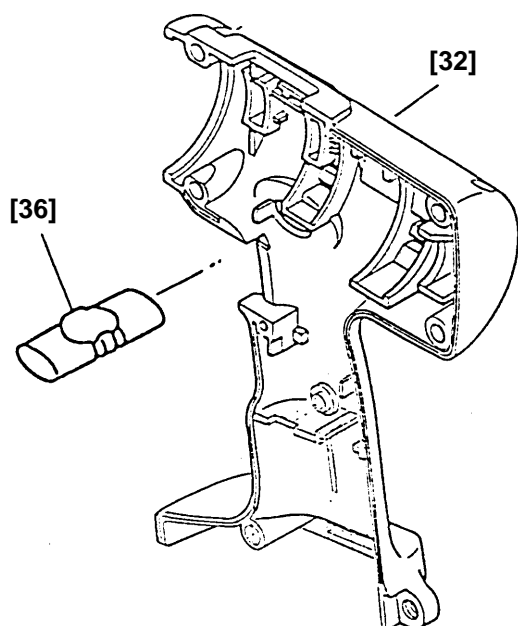

Fig. 17
(f) Install the Pushing Button [36] into Housing (B) [32]. (See Fig. 17)